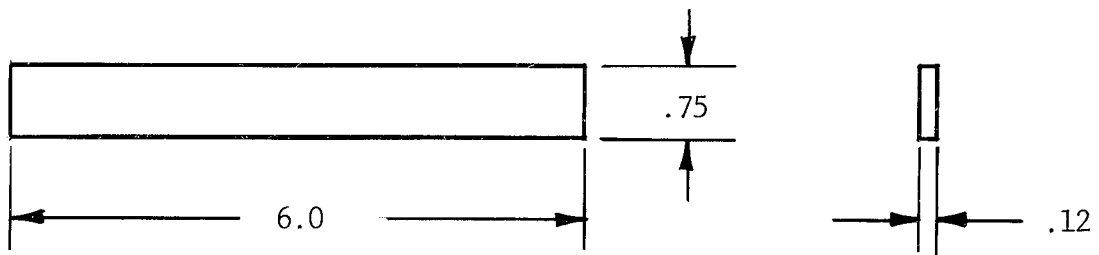

FIGURE 1
3. If clearance is less than .05 inch, fabricate a tool (utilizing the dimensions shown in Figure 1) from a suitable non-metallic material such as wood. Insert tool between fuel line and vent lever. Slide tool forward and aft, at the same time twisting it in each direction, to obtain .05 inch to .15 inch gap.